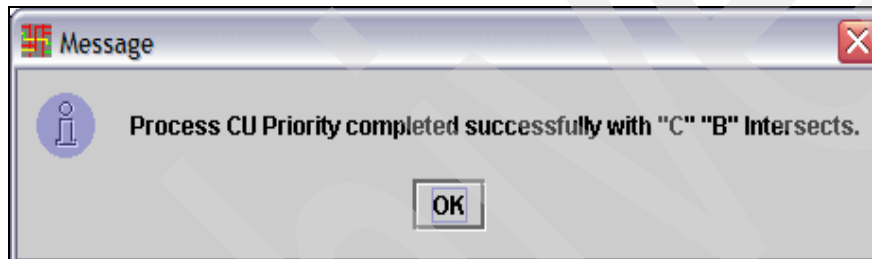

Figure 4-60 CMT - Process CU Priority completion message
3. Click **Process**. After the CHPID Mapping Tool has assigned the CHPIDs, it displays a message indicating the results of the process. Click **OK** (Figure 4-60).